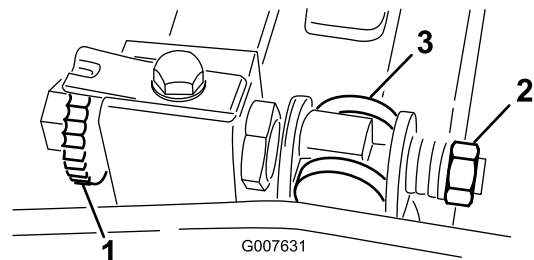

Figure 55
1. Turn the bedbar-adjuster screw counterclockwise to back the bedknife away from the reel (Figure 55).
2. Back out the spring-tension nut until the washer is no longer tensioned against the bedbar (Figure 55).